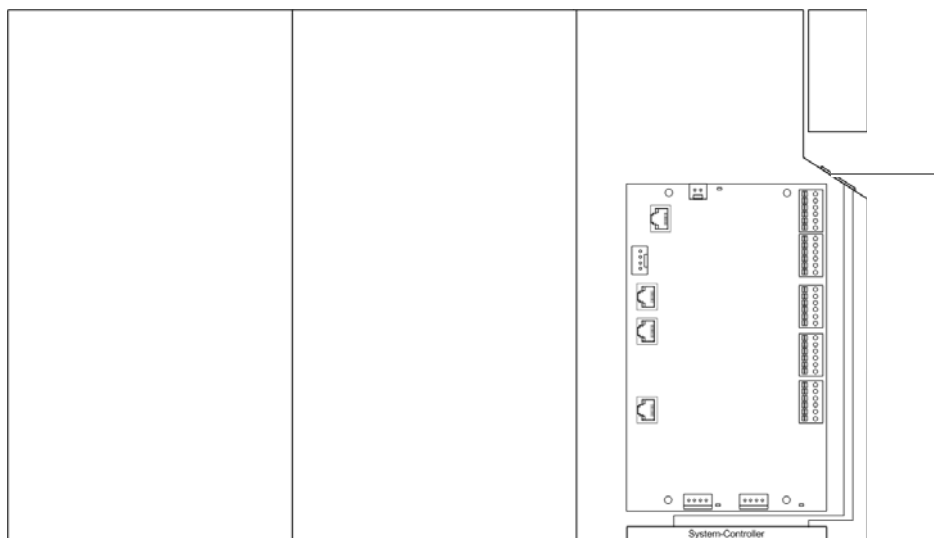

Figure 11.17 Mounting frame grommet (top view)
5. Route the cables of the external alarms through the corresponding grommet, refer to Figure 11.17.